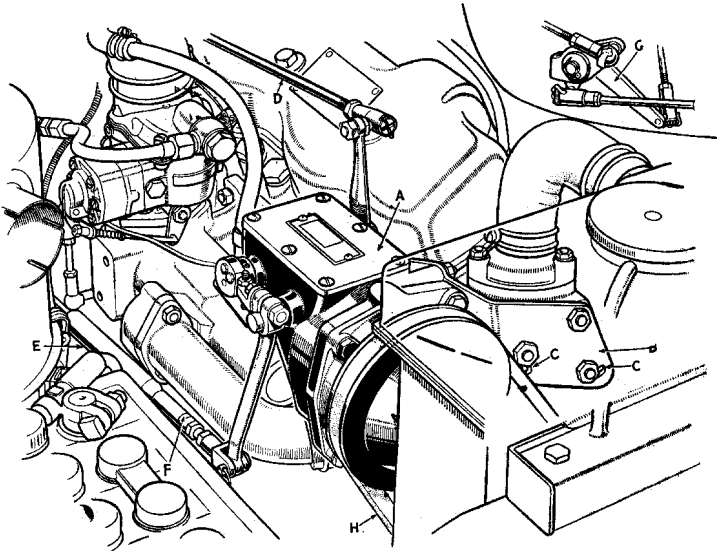

Fig. 53. Engine governor.
It is mounted on a bracket (B) affixed to the front of the thermostat housing (Fig. 53) and is belt-driven from the front groove of the water pump and fan pulley.